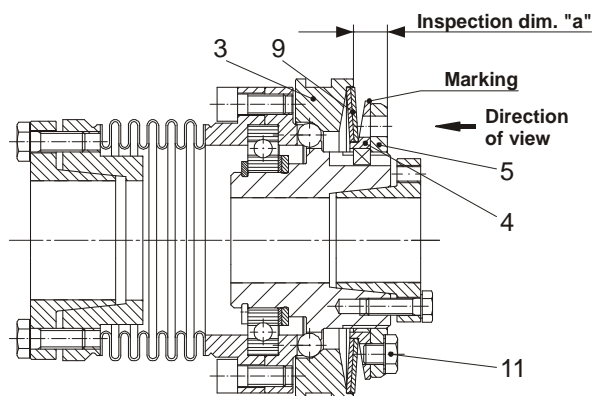
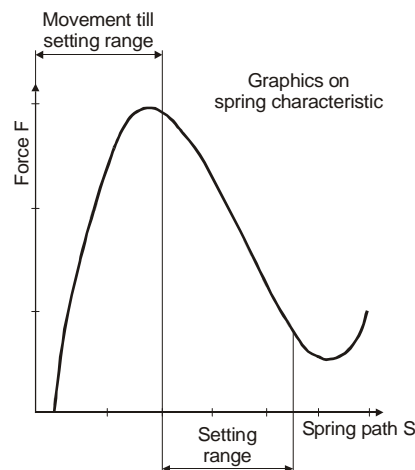

Fig. 11
Fig. 12
The adjustment is made by turning the adjusting nut (5). The fitted cup springs (9) operate in the negative area of their characteristics (see Fig. 12), i.e. a tightening of the adjusting nut (5) effects a decrease of the spring force, or a release of the adjusting nut (5) an increase of the spring force. The clutch is **adjusted generally** at approx. 70 % of the corresponding maximum torque and **marked** (calibrated) at the factory, if the customer does not require a different torque adjustment.
An inspection „spring application in the setting range“ (Fig. 12) can be made via the dimension “a” (distance from adjusting nut-front face (4) until thrust washer-front face (3) (Fig. 11). Please take the data from Table 2.
The clutch does not function any more if the adjusting nut (5) is adjusted or the cup springs (9) are distorted outside the setting range of the cup spring characteristic (see Fig. 12). After dismantling the clutch (e.g. by changing the cup springs or cup spring layers) the clutch must be re-adjusted via the dimension “a” (see Table 2 and Fig. 11) and calibrated.